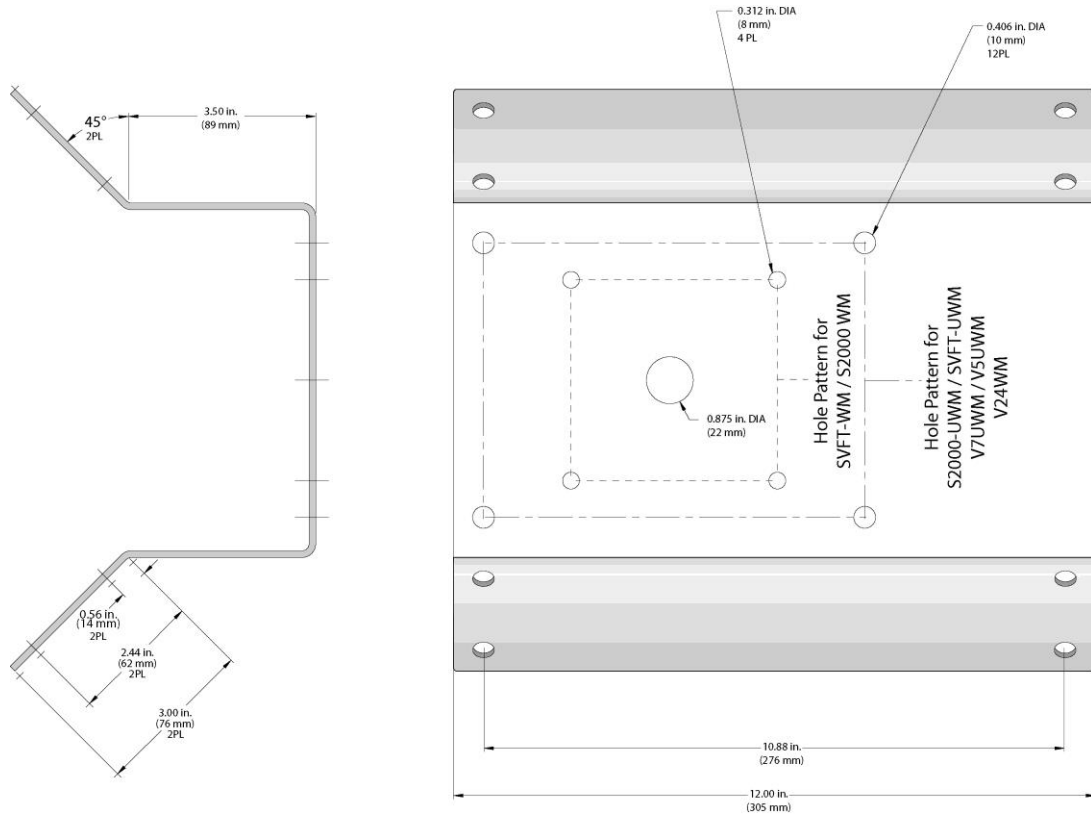

Figure 1
2. Secure the V-24CMB-1 to the structure with eight (8) 3/8-in. lag screws or hex bolts (or studs). Use the V-24CMB-1 as a template if holes are to be pre-drilled. Refer to Figure 1 for the dimensions of the V-24CMB-1.
3. Secure the wall mount base plate to the face of the corner mounting bracket with four (4) 3/8-in. x 1-in. hex bolts, nuts, and washers or four (4) 1/4-in. x 1-in. hex bolts, nuts, and washers for SVFT-WM-1.